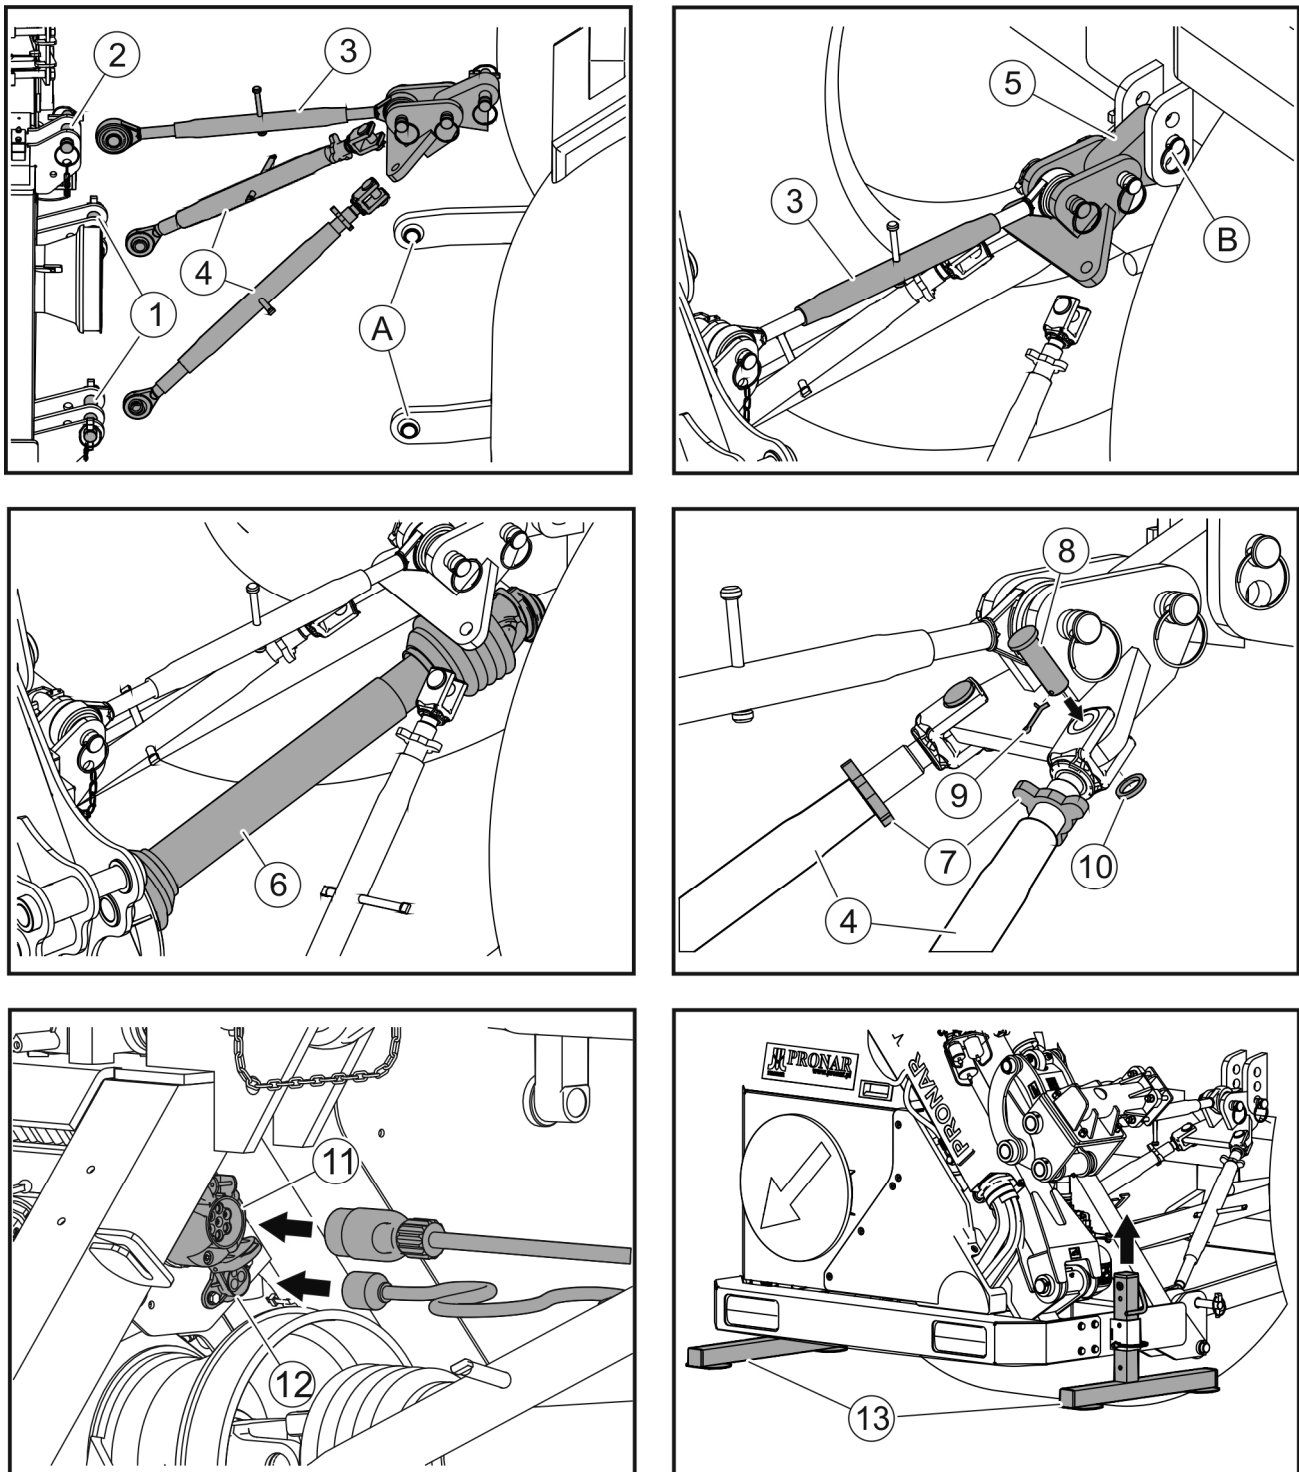
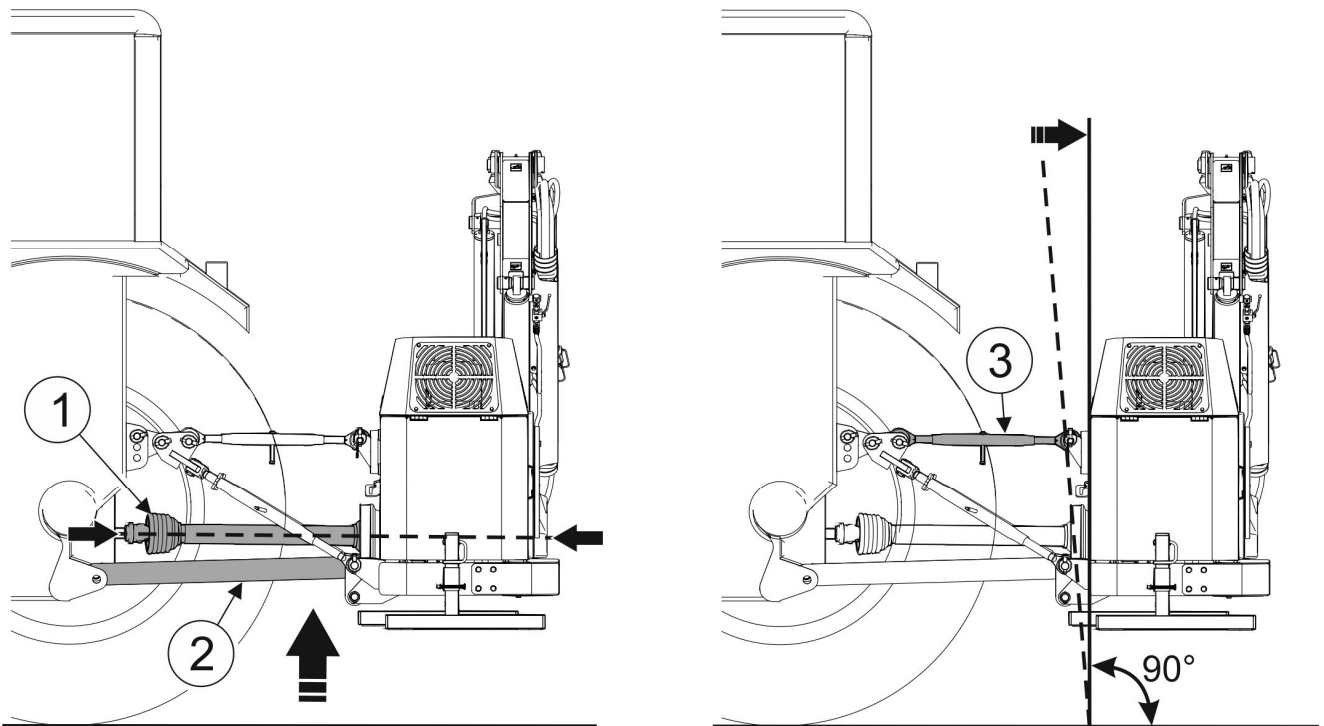

FIGURE 4.1 Hitching the multifunction arm to the carrier vehicle (tractor).
FIGURE 4.2 How to position the multifunction arm in relation to the ground.
In order to hitch the multifunction arm to the carrier vehicle's (tractor) rear three-point linkage, adhere to the following guidelines (FIGURE 4.1):
- When links (4) of the three-point linkage lock system are unlocked (FIGURE 4.1), raise the multifunction arm by means of lower links (2) (FIGURE 4.2) of the rear three-point linkage of the carrier vehicle (tractor) to such a height that drive shaft (1) connecting the multifunction arm's multiplier gear box with PTO shaft of the carrier vehicle (tractor) is positioned horizontally with regard to the ground. Both lower links (2) of the rear three-point linkage of the carrier vehicle (tractor) should be positioned at the same height with regard to the ground.
(1)- drive shaft; (2)- lower links of the carrier vehicle's (tractor) rear three-point linkage; (3)- central link of the three-point linkage lock system.
- Level the multifunction arm by adjusting the length of central link (3).
- Lock the three-point linkage by fixing the fork of links (4) (FIGURE 4.1) to the bracket of the three-point linkage lock using pins (8). Secure the pins with cotter pins (9). Lock the set length of links (4) of the three-point linkage lock by means of lock nuts (7).
- Connect 7-pole electric socket (11) (option) (FIGURE 4.1) of the power supply system of rear lamp assembly and 3-pole electric socket (12) (option) of the power supply system of the oil cooler fan and power supply of the control panel (WWT424C / WWT484C) using connection leads with corresponding electric sockets on the carrier vehicle (tractor).